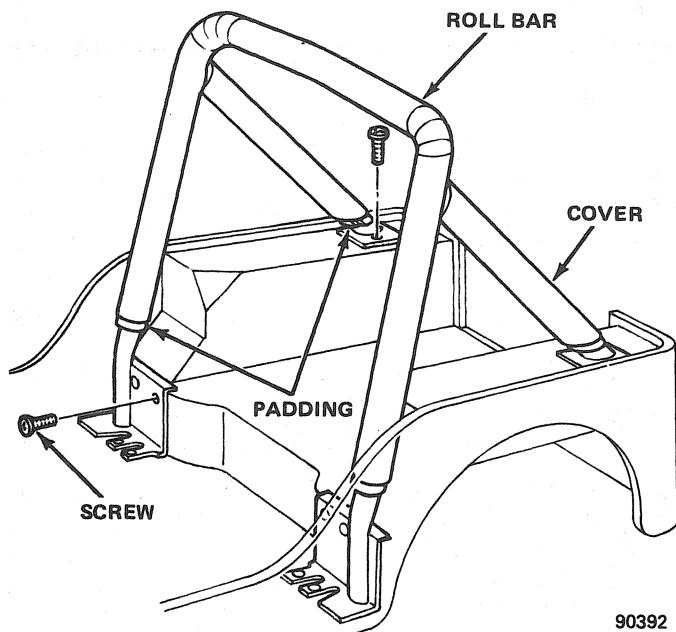

Fig. 3F-23 Roll Bar—CJ Models
- (1) Remove CB radio antenna from roll bar, if equipped.
- (2) Remove nuts, washers, bolts and nut plates (fig. 3F-24) attaching roll bar to side of pickup box, using Torx Bit Tool J-25359-C.
- (3) Remove nuts, washers and bolts attaching roll bar to bed of pickup box, using Torx Bit Tool J-25359-C.
- (4) Remove roll bar assembly and anti-squeak material from pickup box.